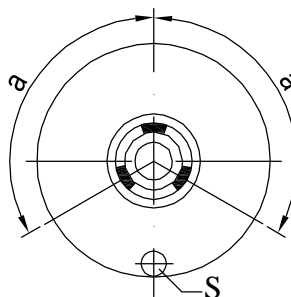

Fig.5
- Place two correction weight "K" anywhere around the periphery, but at equal distance "a" from weight "G" (Fig 5)